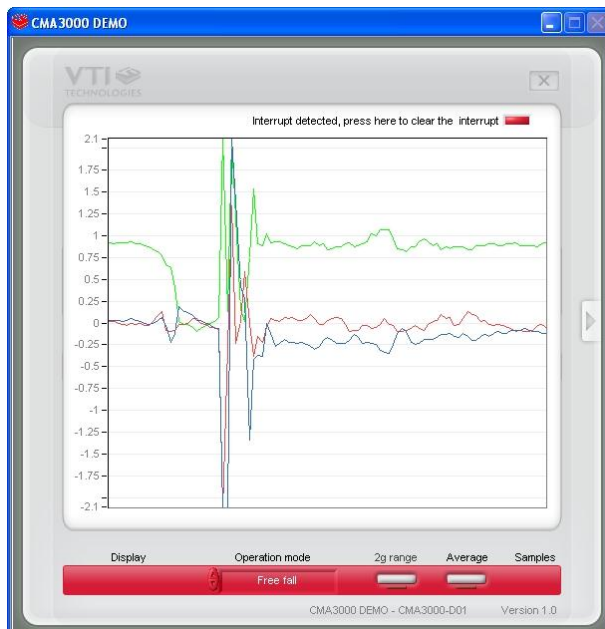

Figure 5. Scroll display.
**SCROLL**, continuously scrolling X, Y, Z and resultant accelerations, see Figure 5. Acceleration is presented in [g]. User can: